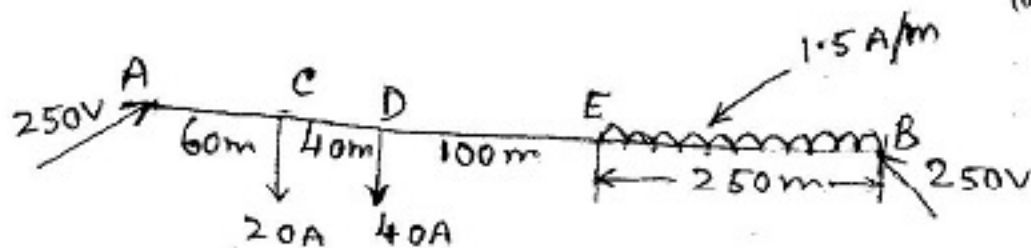

Fig. Q7 (b)
- b. A dc 2-w distributor AB is 450 m long and is fed from both ends at 250 V is loaded as shown in figure Q7 (b). The resistance of each conductor is $0.05 \Omega/\text{km}$. Find the point of minimum potential and its potential. (08 Marks)